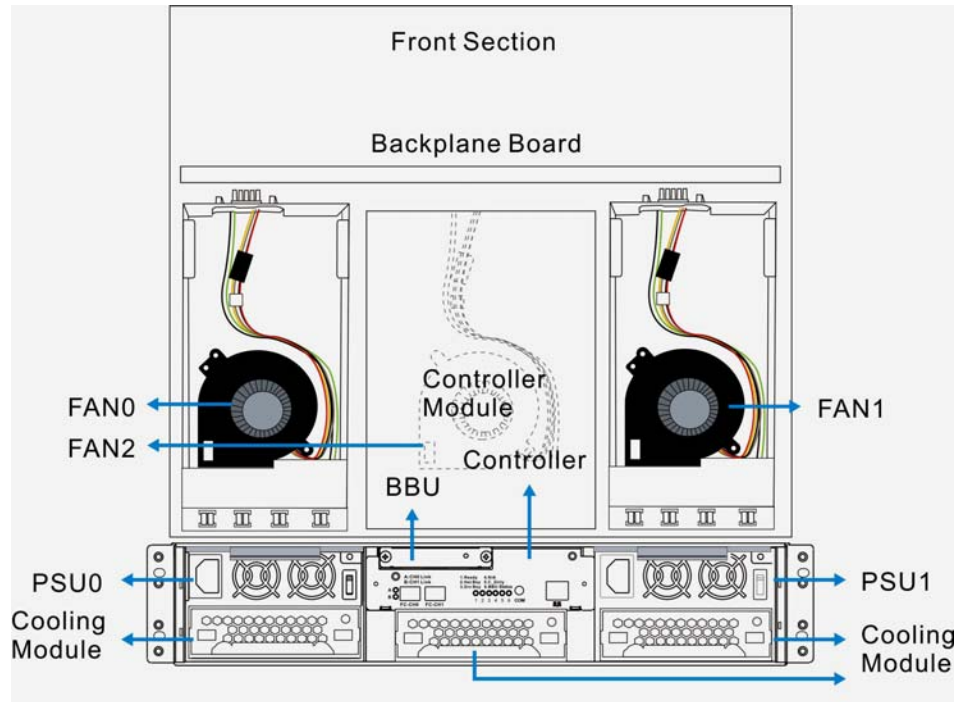

Figure 1-3: Galaxy 12-bay SATA RAID Subsystem Overview
The Galaxy 12 bay and 8 bay subsystems come in a 2U metal chassis. A backplane board divides the enclosure internally into front and rear sections. (See **Figure 1-3**) The front section accommodates twelve (12) or eight (8) drive trays (with their associated hard drives) and the rear section accommodates two (2) PSU modules, two (2) or three (3) single-fan cooling modules, and a single RAID controller module. The two (2) forearm handles on the front of the subsystem enable you to easily insert/extract the chassis into/from a rack or cabinet. Pre-drilled mounting holes on the sides of the chassis allow you to attach separately purchased slide rails.